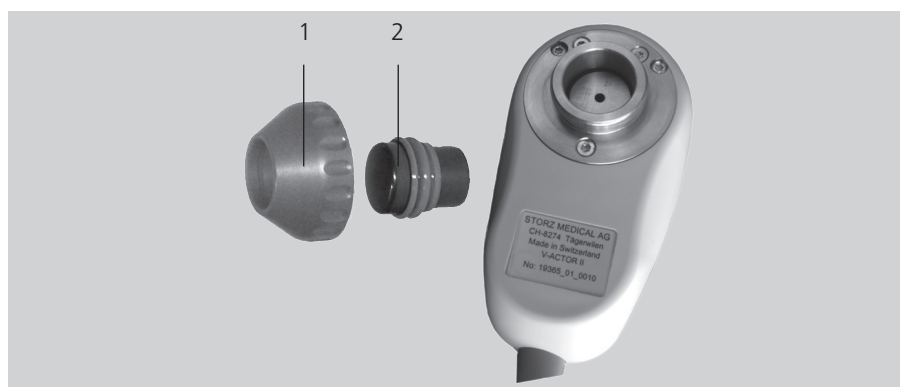

Fig. 2-2 Replacing the transmitter V25 und V10
- To remove the 25 mm transmitter or the 10 mm spherical transmitter, unscrew the transmitter screw cap (Fig. 2-2/1) from the handpiece and pull the transmitter out (Fig. 2-2/2).